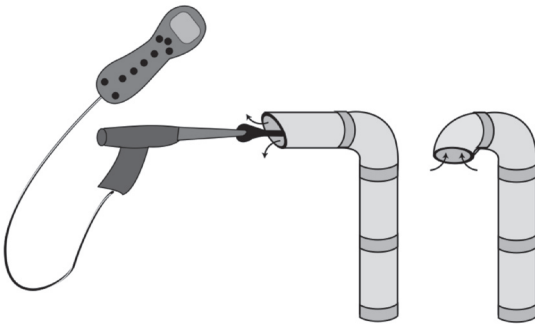

Figure 9-60. Check for CO only at output of flue gas at PVC outside for high efficiency or medium efficiency units with a two-walled flue.
- 90%+/Condensing/High Efficiency furnaces (Figures 9-60 and 9-61)—No draft test is required. These have a positively pressurized PVC plastic flue and so you cannot check for a negative draft in the flue.